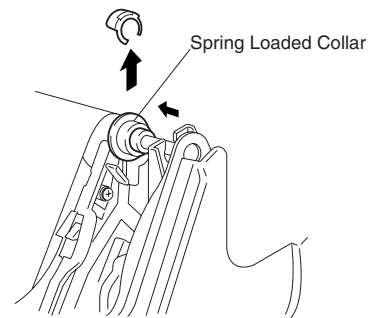

Figure 2
8. Push in on the spring loaded collar to release the front of the IBT Drive Shaft from the front of the printer frame (Figure 2).